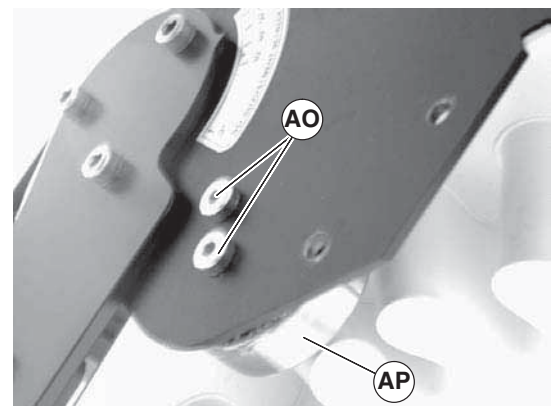

Figure 19
- Remove belt (Figure 19, item AQ) from conveyor.